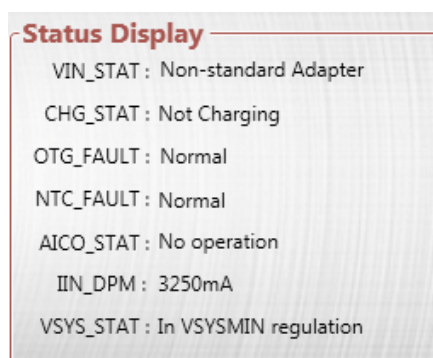

Figure 29: Operation Status Display
- MP2731 operation status monitoring (see Figure 29)